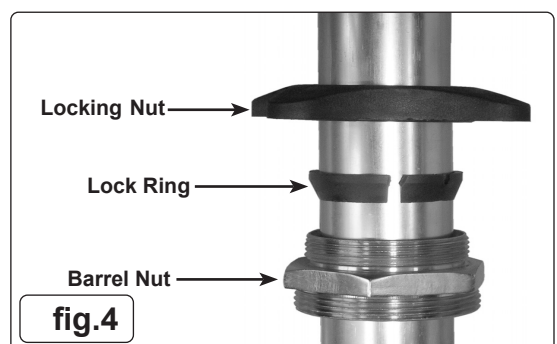

fig.4
- 4.2.4. Slide the locking nut, locking ring and the barrel nut onto the pick up probe of the pump (fig.4), screw the locking nut onto the barrel nut to lock the assembly to the pick up probe.